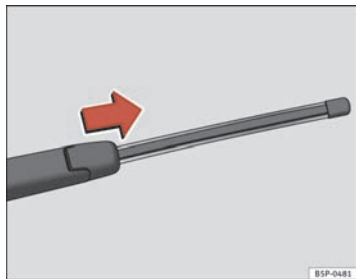

Fig. 149 Removing rear window wiper blade
- Lift the wiper arm away from the glass ⇒ fig. 149.
- Slide the blade adapter in the direction of the arrow and remove the blade ⇒ fig. 149.